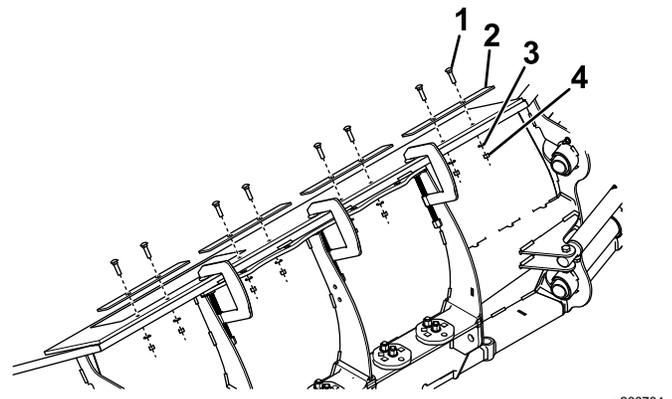

Figure 12
Note: If your plow does not have holes to use as a guide, use Figure 12 as a guide for where to drill.
5. Secure 4 square straps to the holes in the long belting using 8 carriage bolts (5/16 inch), 8 washers (5/16 inch), and 8 nylon locknuts (5/16 inch) as shown in Figure 12.